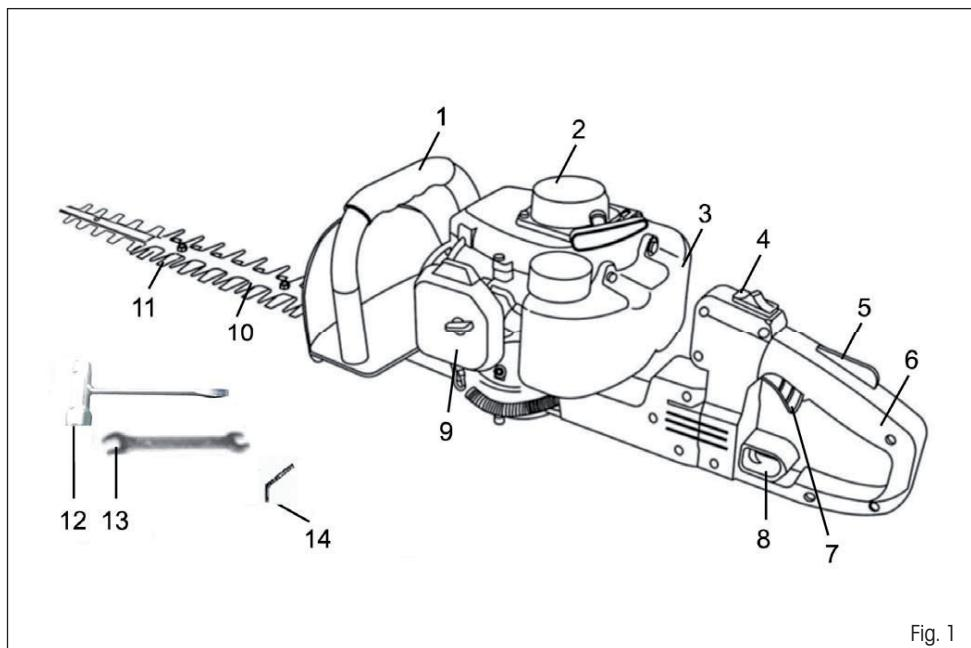

Fig. 1
### DESCRIPTION OF THE POWER TOOL (SEE FIG. 1)
1. Set the engine switch (Fig. 1, point 4) to the off (OFF) position to ensure that the engine is turned off.